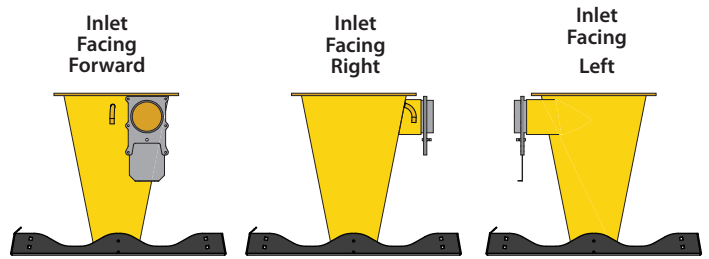

FIG. 2
The Cyclone's inlet (E) can be rotated in 30-degree increments to best connect to your ductwork and/or tools. [FIG. 2].